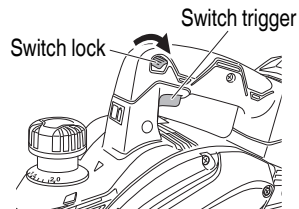

Fig. 7
1. Operation of switch (Fig. 7)